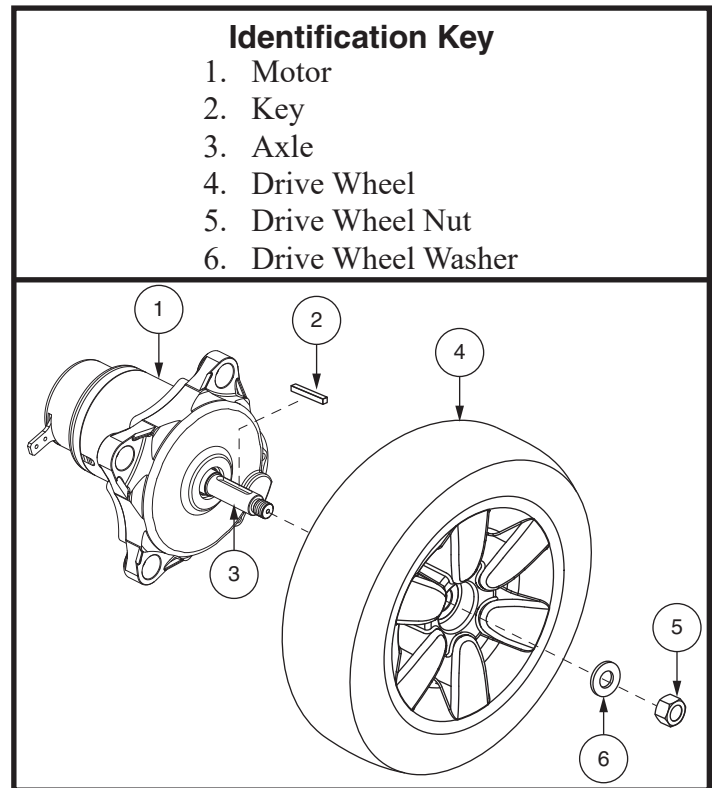

Figure 18. Drive Wheel Removal
6. Remove the drive wheel nut and washer from the axle. **See figure 18.**
7. Remove the drive wheel from the axle. Make sure that you keep the key. **See figure 18.**
12. Reinstall the drive wheel nut and washer onto the axle and tighten. **See figure 18.**